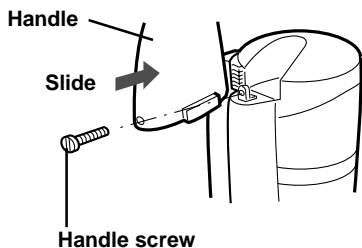

Fig.1
- 1 First remove the handle screw. Then slide the base of the handle to the body of the vacuum cleaner as shown. (Fig. 1)